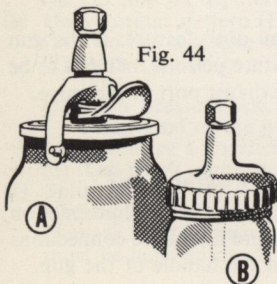

Fig. 44
By means of a lid assembly (often called a cup attachment) that either clamps (A) or screws (B) onto the cup container (Fig. 44). Some lid assemblies are detachable from the gun, others are a part of the gun. (See Fig. 2.)